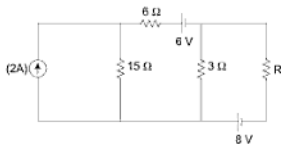

Fig. A1-21
- (e) Find the value of resistance ' R ' to have maximum power transfer in the circuit as shown in Fig. A1-21. Also obtain the amount of maximum power.